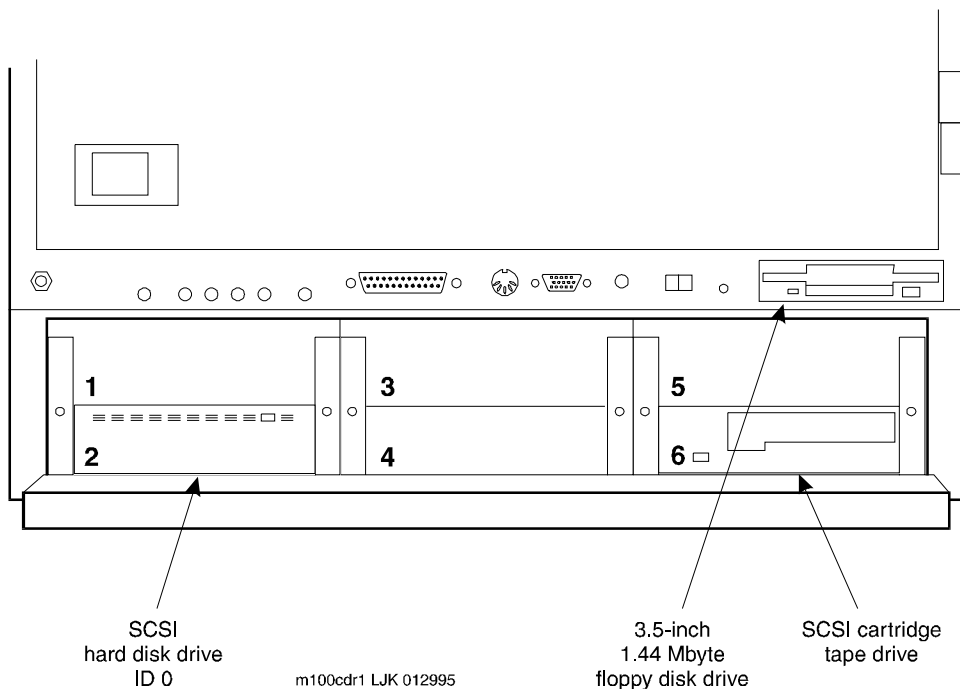

Figure 4-8. MAP/100C Peripheral Bay
2. Swing the door down as far as possible (Figure 4-8).